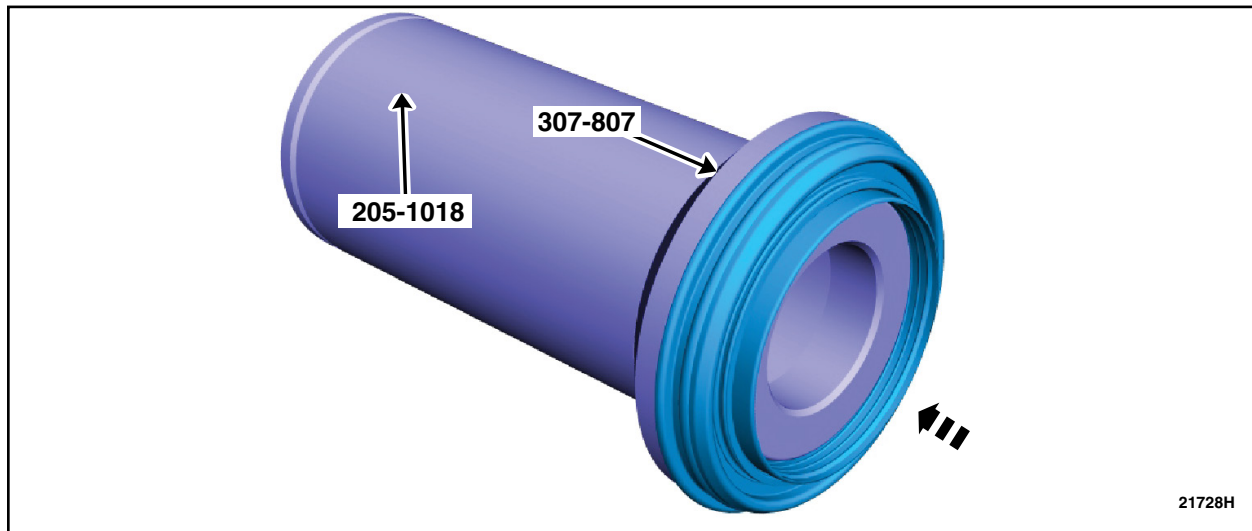

FIGURE 9
11. Install the *new* torque converter hub seal on the special tools. Use Special Service Tool: 205-1018 Installation Tube, 307-807 Installer Converter Seal. See Figure 9.